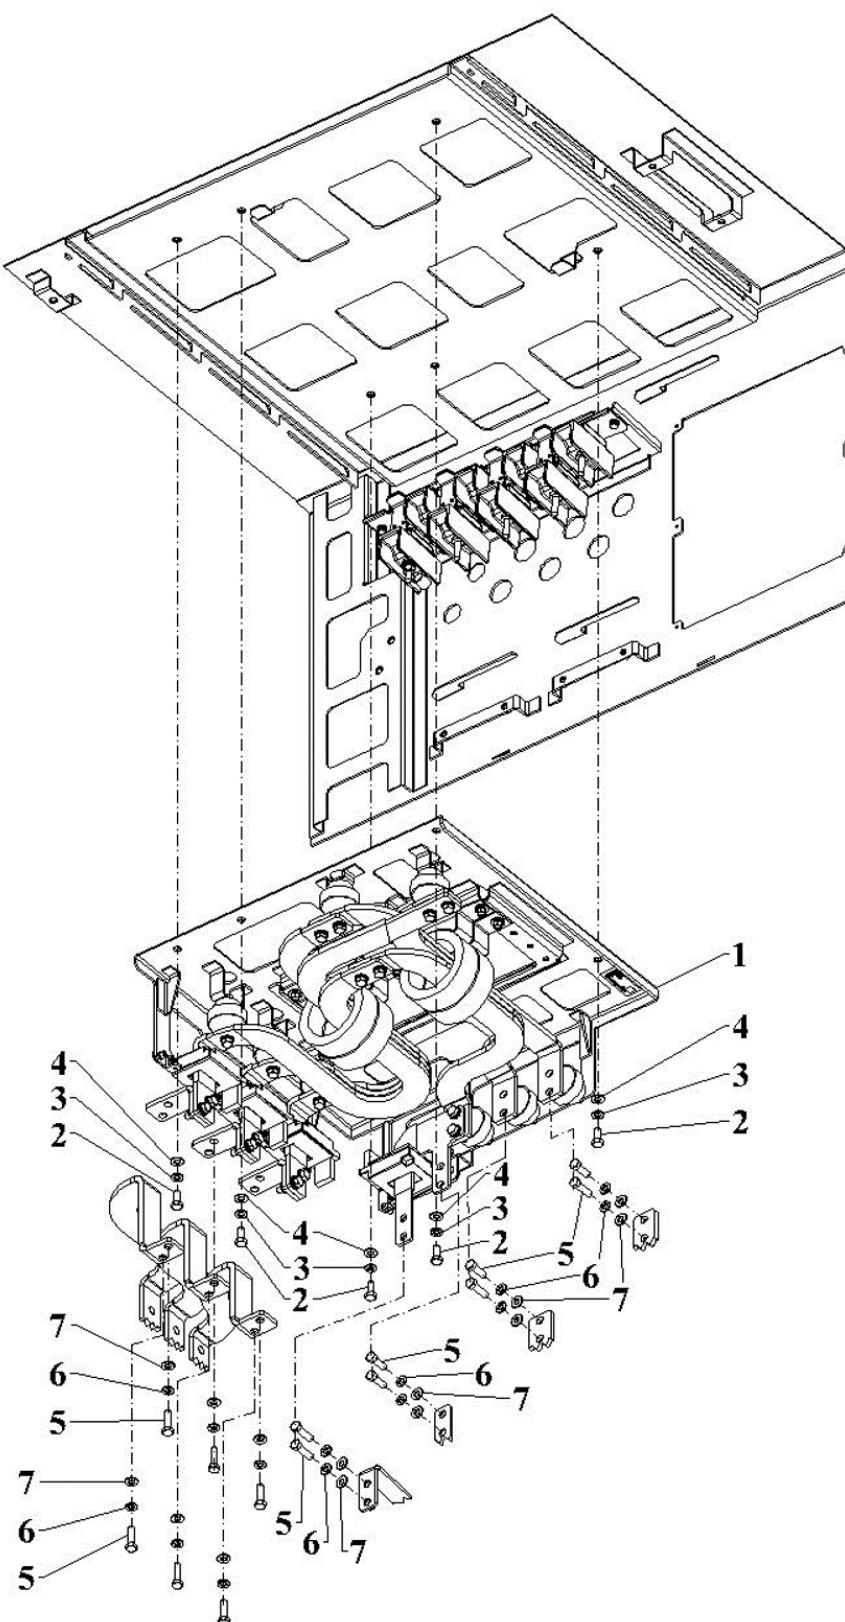

Figure 5-16: Current Transducer Unit 2 Installation
6. Disconnect eight bus bars. These are M8 threads so use a 13 mm socket to remove bolt (5), flat washer (7) and lock washer (6). Refer to Figure 5-16.
4. As seen in Figure 5-16, squeeze together the black plastic release buttons on the front of the Arc Chute and turn down the four locking levers one by one. The locking bars will pop up at the release button. Place the arc chute containing the stationary contacts on a flat surface in an upright position to examine the contact tips.
5. The auxiliary contacts have a life-time that exceeds the main contacts. To inspect, remove the 2 thumb screws securing the plastic cover over the Auxiliary Contacts as seen in Figure 5-16. Ensure that all of the connections are secure. The auxiliary switches must be clean and not show signs of overheating.